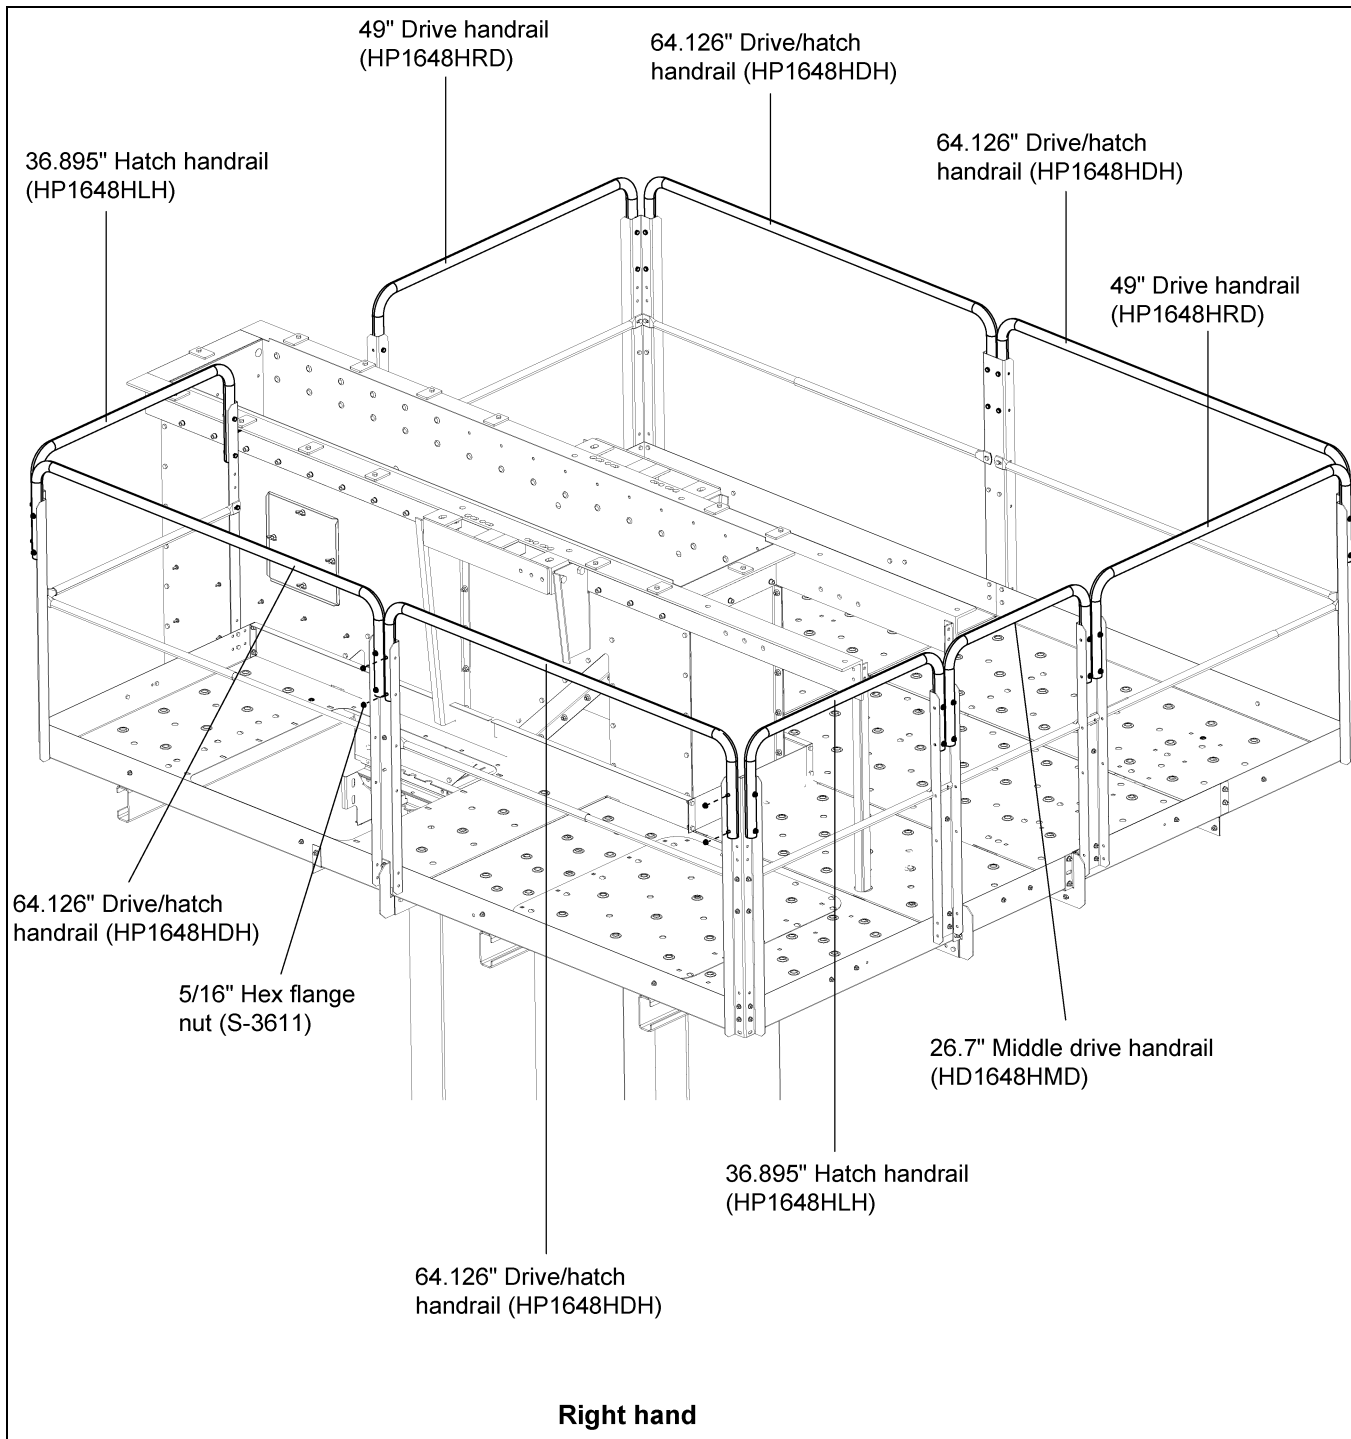
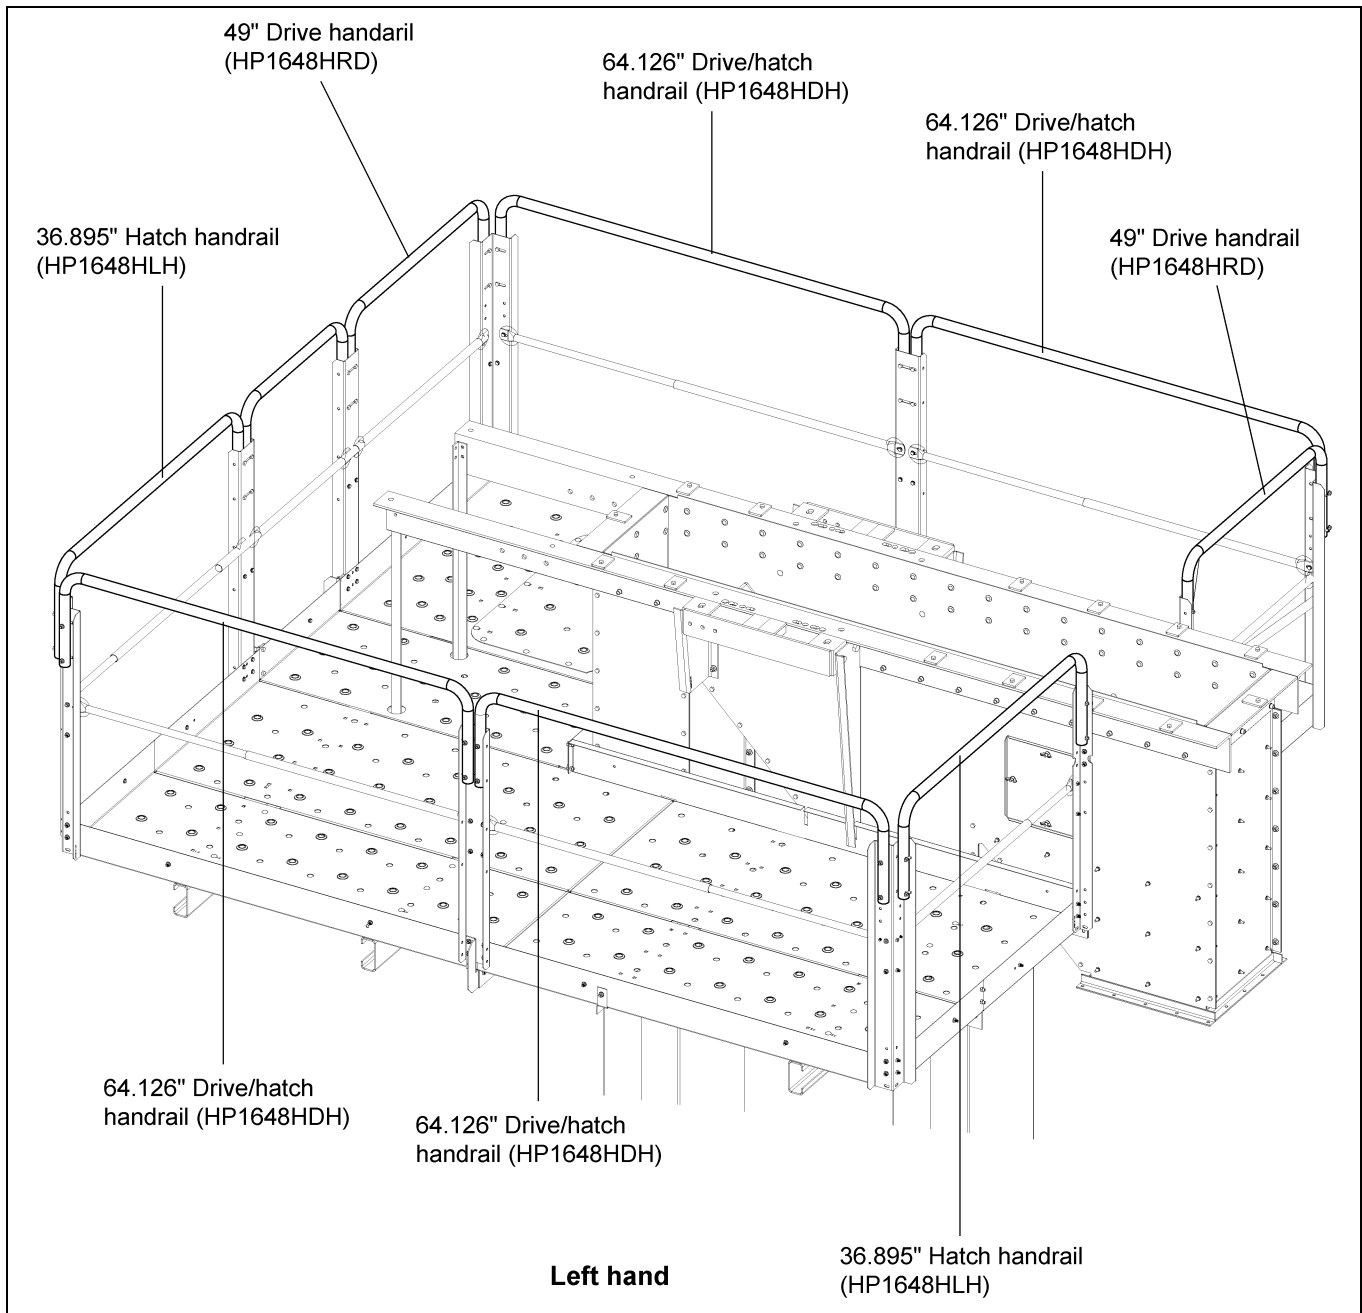

Figure 10L Right Hand Drive Rail Locations
Figure 10M Left Hand Drive Rail Locations
1. Attach handrails to the handrail posts using 5/16" x 2" bolts (S-7877) and hex nuts. Use Figure 10L below Figure 10M. for handrail location.